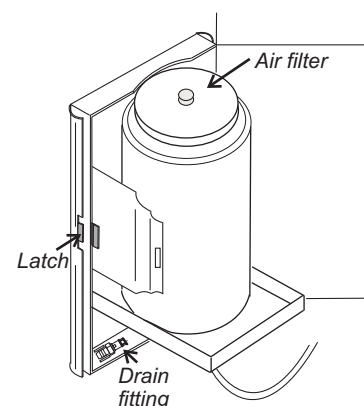

Figure 7-6. Water Bottle
1. Locate the humidity system drain fitting attached to the inside of the water bottle access door. See Figure 7-6.